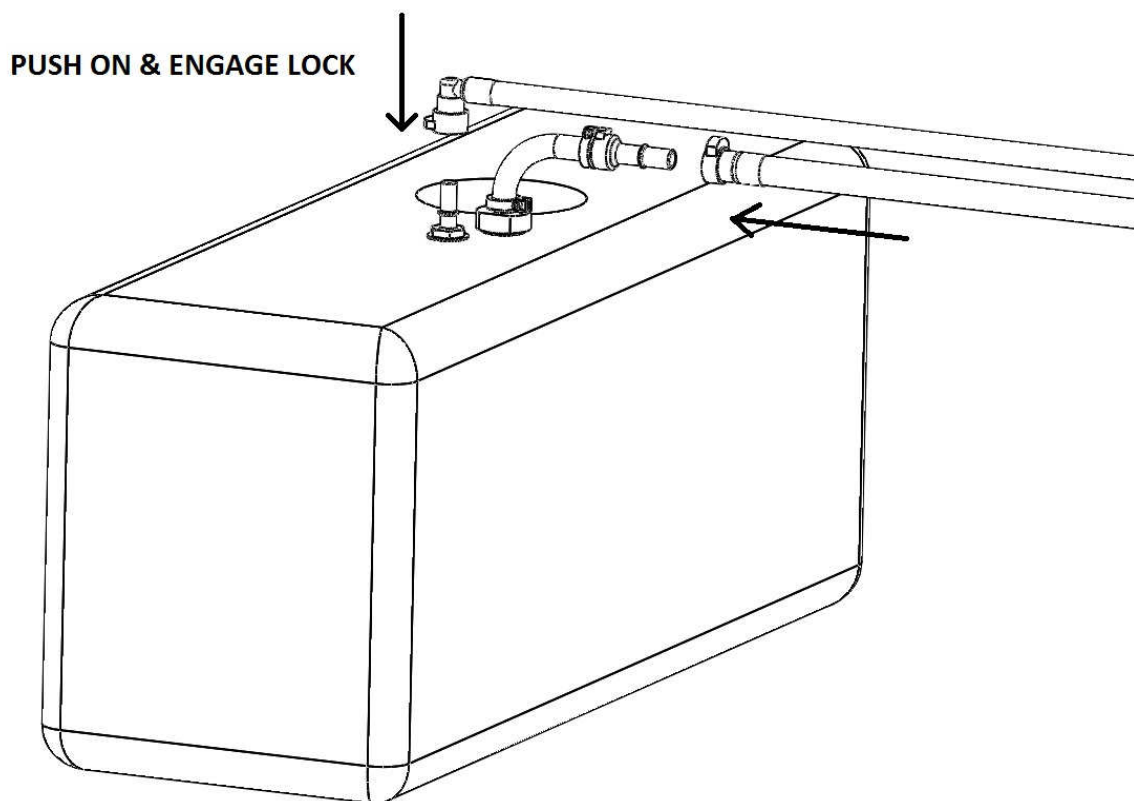

FIGURE 1-13
16. Reinstall the factory pickup assembly noting the position of the fuel level as it was removed. Position the tank under the vehicle and attach the feed and return lines. Place rubber cap over factory feed line connection and secure with tie wrap. Raise tank and position it into place. **FIGURE 1-13**